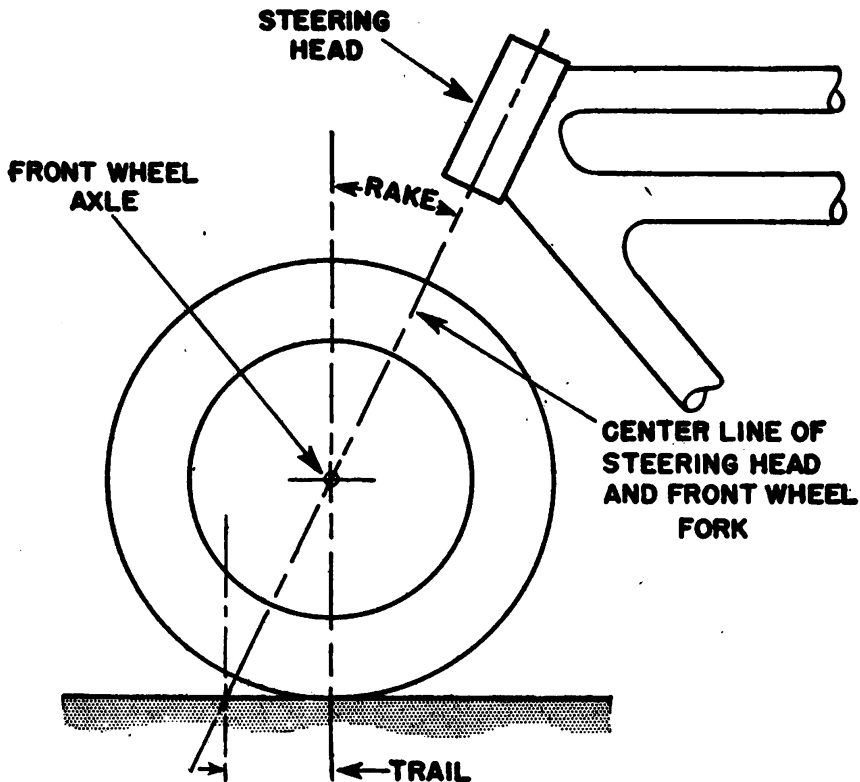

FIGURE 29.—Front-fork rake and trail.
*c. Factors in steering.*—The handling of a motorcycle depends largely upon the location of its center of gravity and upon the angle (fig. 29)